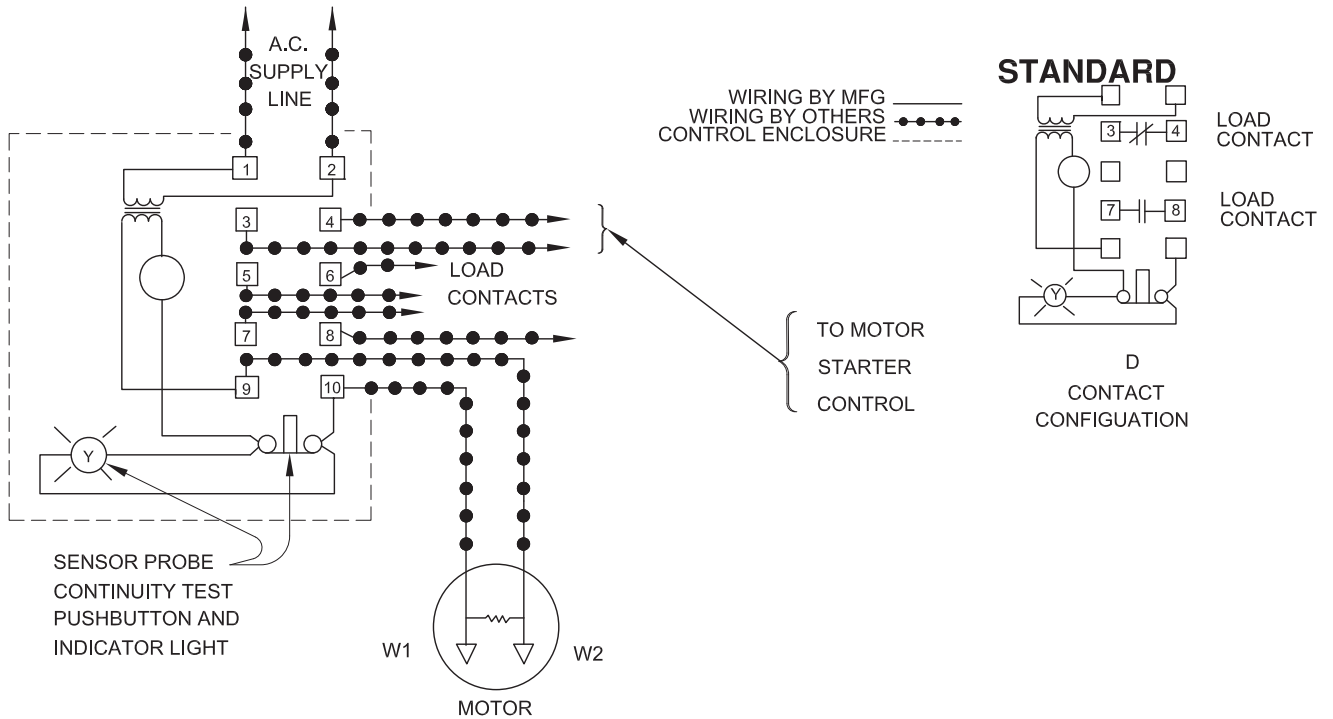

FIGURE 5
- c. A moisture detection circuit with continuity test circuit (See Fig. 5)
To expose outer shaft seal (4) for examination, remove Impeller and Volute per Section E-1.1. Set motor assembly (1) in the inverted position to prevent loss of oil. Remove snap ring from motor shaft, then retaining ring (5), spring (4C) and rotating member (4B) from shaft. See Figure 5 Examine all seal parts and especially contact faces. Inspect seal for signs of wear such as uneven wear pattern on stationary members, chips and scratches on either seal face. **DO NOT** interchange seal components, replace the entire shaft seal (4). If replacing seal, remove stationary (4A) from mounting plate by prying out with flat screw driver.